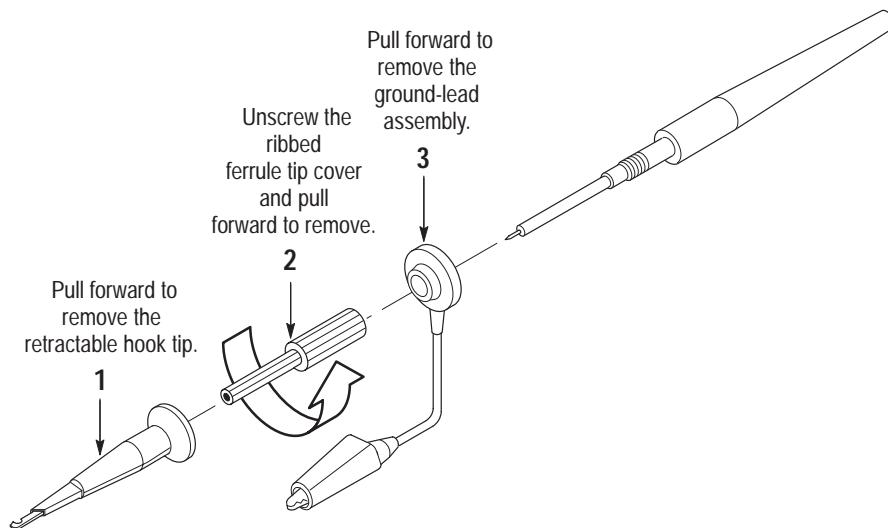

Figure 5–5: Exposing the inner probe tip
- a. *Expose the Inner Probe Tip:* Follow the instructions in Figure 5–5.